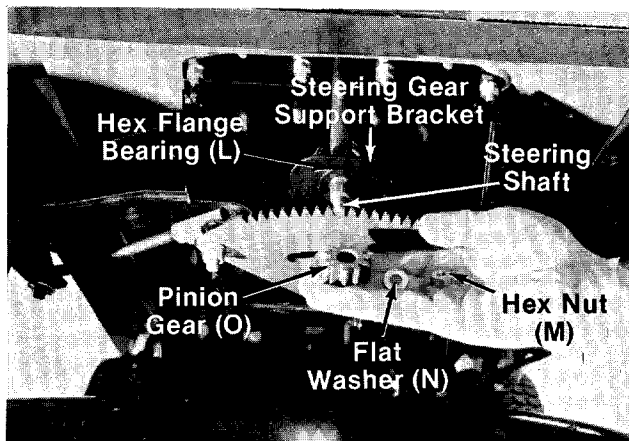
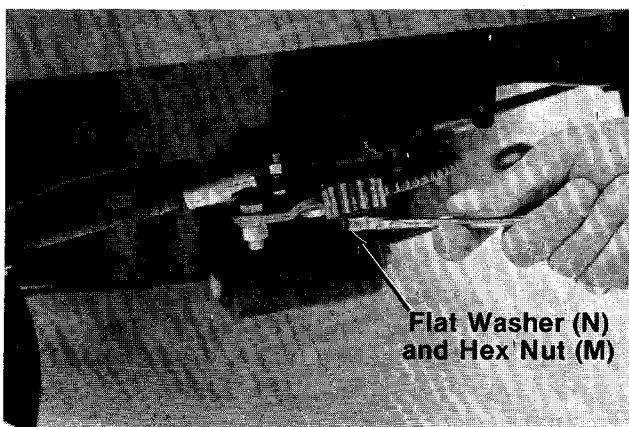

FIGURE 7.
FIGURE 8.
8. Insert the steering shaft with assembled parts through the steering housing cover. The lower end of the shaft should extend through the hole in the front end of the steering gear support bracket (Ref. No. 12 on page 24). See figure 7.
10. Place the remaining hex flange bearing (L), flat side down, over the end of the steering shaft, and seat it into the steering gear support bracket. See figure 7.
11. Position pinion gear (O) over splined collar on steering shaft. Then place flat washer (N) (5/8" diameter) on shaft and secure with hex nut (M) (5/16" I.D.). Do not tighten at this time.
13. Now tighten the hex nut (M) which secures the pinion gear. See figure 8.